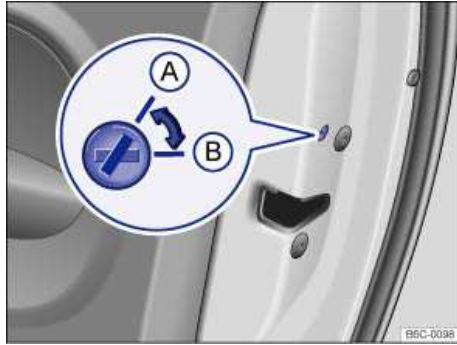

Fig. 149 On the edge of the passenger door: A unlocked, B locked.
- Insert the key bit into the slot and turn from position ⇒ fig. 149 \(A\) to the locked position, \(B\).